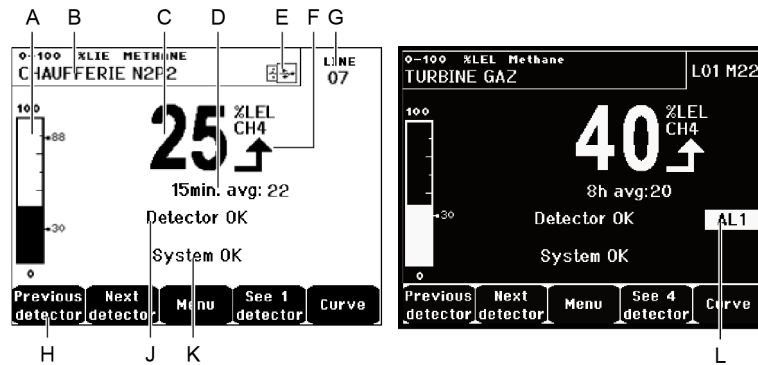
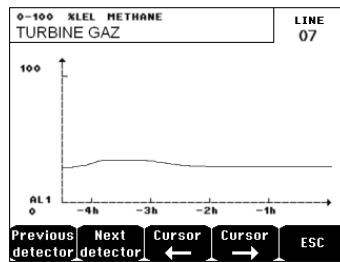

Figure 44: Example of the measurement display in normal mode and in inverse video.
Figure 45: Example of a curve display screen.
H.	<p>Function keys.</p> <ul style="list-style-type: none"> <li>■ Previous detector: Display of measurements of previous detector; scanning of all the detectors on all the lines.</li> <li>■ Next detector: Display of measurements of next detector; scanning of all the detectors on all the lines.</li> <li>■ Menu: Display of main menu See paragraph "Main menu" on page 47.</li> <li>■ See 4 Detectors: Display of a group of 4 detectors (detector tag, barograph with indication of alarms, value of current measurement with unit and gas detected). Use the Page down or Page up keys to display all of the next 4 detectors; passage to the next zone is automatic.</li> <li>■ See 8 Detectors: Display of a group of 8 detectors (detector tag, value of current measurement with unit and gas detected). Other buttons similar to the selection. See 4 detectors.</li> <li>■ See 16 Detectors: Display of a group of 16 detectors (detector tag, value of current measurement with unit and gas detected). Other buttons similar to the selection. See 4 detectors.</li> <li>■ See 1 detector: Display in normal mode (Figure 44).</li> <li>■ Curve: Display of the measurement curves of the last 4 hours (Figure 45). The → and ← keys allow cursor displacement through the time scale. The vertical dotted line displays the concentration and time stamp of the point being considered. Escape: return to display of values.</li> </ul>
- L. Zone of indication of activated alarms with blinking threshold display. The screen changes to inverse video (Figure 44, screen on the right).